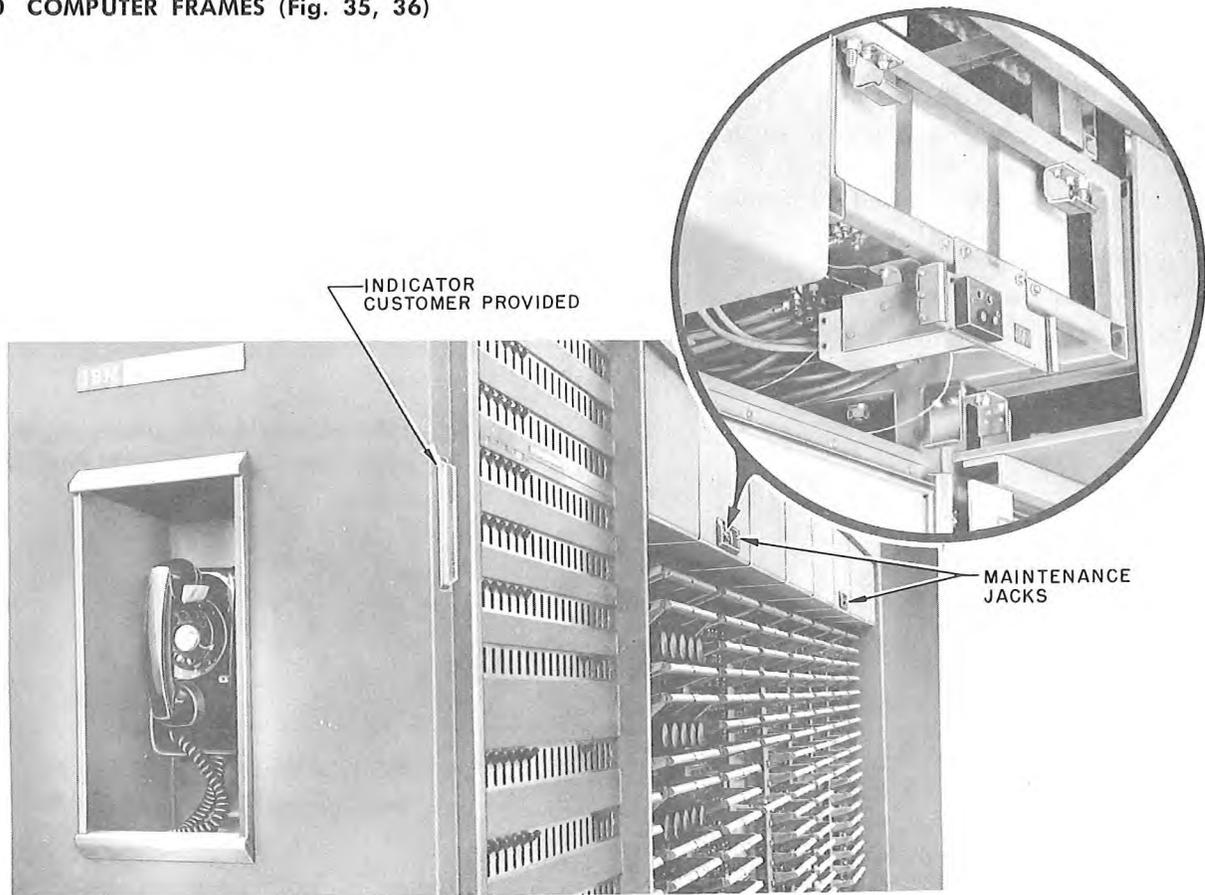

Fig. 35 - Maintenance Jack Mounting Arrangement on Computer Frame
11.00 COMPUTER FRAMES (Fig. 35, 36)